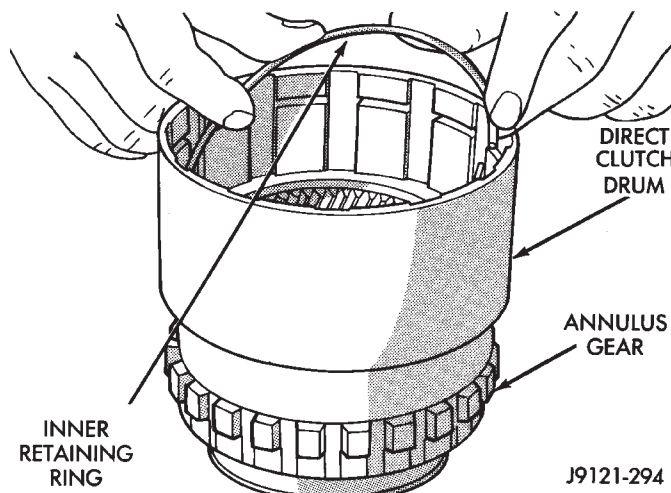

Fig. 329 Installing Clutch Drum Inner Retaining Ring
(8) Slide clutch drum forward and install inner retaining ring (Fig. 329).